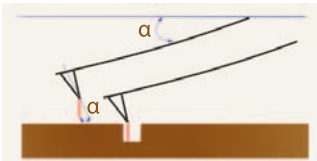

Fig. 2. Any angle of inclination a you need to match your AFM holder specification can be produced. Just specify the angle of inclination you want
The results of AFM investigation of living cells line L41 by using the colloidal probes are shown in Figure 2. According to these data, the values of the living cell compliance (inverse stiffness) along the line marked in the AFM image are almost independent on the vertical dimensions of the cell. The values of compliances were determined as a steepness of deformation from load curves measured during indentation. Detecting constant level of the compliance was related with the fact that the maximum indentation depth did not exceed the radius of curvature of the probe and was almost an order of magnitude smaller than the height of the cell. I.e. the relatively thin surface layer of the living cell is responding to the indentation. Calculation of elastic modulus for that surface layer gave the averaged value of  $21 \pm 3$  kPa.
Figure 2. Investigation of living cell lymphoblastoid line L41. The optical image of the colony of cells in a Petri dish is shown in the left. In the center there is a tapping mode AFM image of the cells (gradient filter was applied for image processing). Scanning parameters: liquid cell, the colloidal probes with 650 nm SiO2 granule, the cantilever stiffness 0.4 N/m, resonance frequency of 16.3 kHz (in an air - 55.5 kHz), quality factor  $\approx 3$  (in accordance with the width of the thermal peak); a free and working amplitude is 22 nm and 14 nm, respectively. The compliance profile (the inverse of rigidity) and the height profile of the cell, measured along the line marked on the AFM image, are placed in the right of the Figure. Cell line L41 was cultivated at the laboratory of evolutionary variability of influenza viruses, Research Institute of Influenza, St. Petersburg
- To profile a shape of sidewalls. Due to a variable angle of inclination (see Fig. 2), no more mechanical restriction!